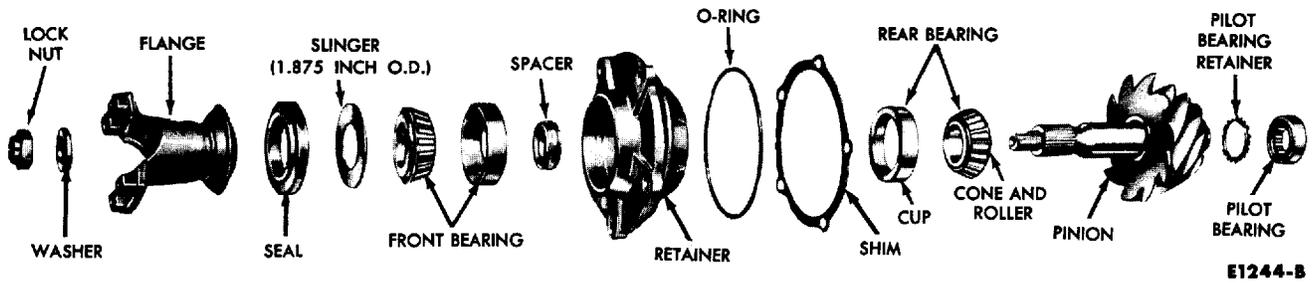

FIG. 26—Pinion and Bearing Retainer
1. Install the drive pinion rear bearing cone and roller on the pinion shaft (Fig. 25). Place a new spacer on the pinion shaft (Fig. 26).